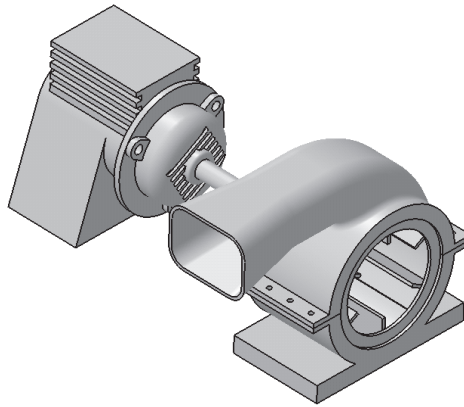

Figure 11-78 The final Blower assembly.
6. Select all constraints under the **Constraints** heading in the specification tree and hide them. The Blower assembly is completed. The final assembly is shown in Figure 11-78.